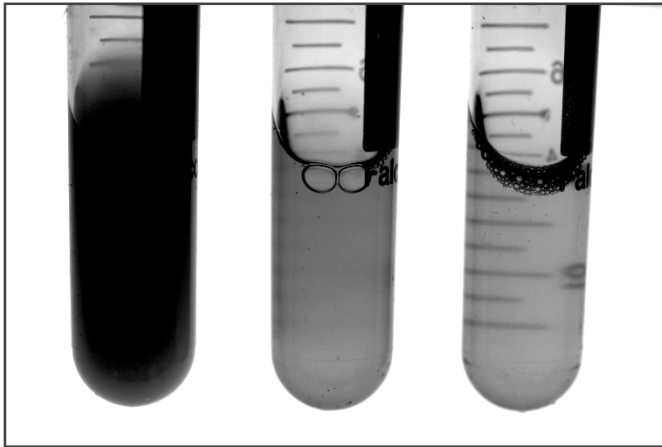

Figure 1: Endolysin can substitute for lysozyme in a STET/lysozyme process.
- 4) Harvest cells. Cells may be stored at -80C and lysed using a freeze thaw cycle (Crabtree and Cronin, 1984; Studier, 1991). Cell lysis can also be performed on fresh or frozen cells with Triton X-100/EDTA lysis solutions (*e.g.*, STET lysis buffer; **Fig. 1**). Soluble cellular content may also be selectively released using acidic extraction (Carnes et al., 2009).